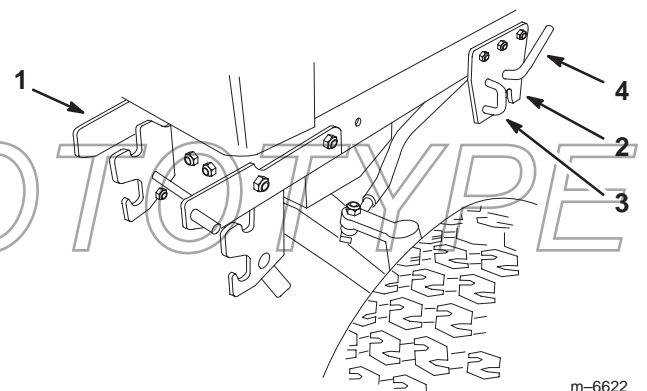

Figure 4
- Open the mid-mount hitch by pulling out the J-pin and moving the lock handle rearward (Fig. 4).
11. Close the mid-mount hitch lock handle by rotating it forward (Fig. 4).